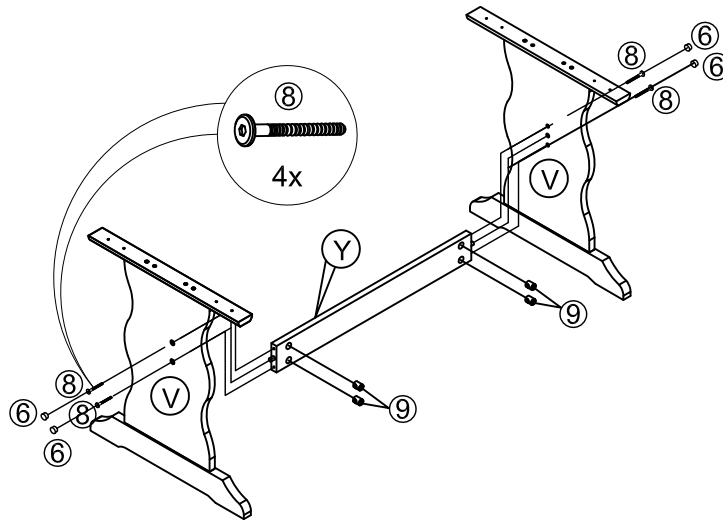

FIGURE 3
- 3.1 ATTACH CROSSBAR #Y TO LEGS #V INSERTING WOOD DOWELS LOCATED AT ENDS OF CROSSBAR INTO HOLES LOCATED ON LEGS. SECURE CONNECTION USING (04) SCREWS#8 AND (04) NUTS#9. AS SHOWN IN FIGURE 3.
- 3.2 INSERT (04) WOOD HOLE COVERS#6 INTO HOLES LOCATED AT LEGS #V AS SHOWN IN FIGURE 3.